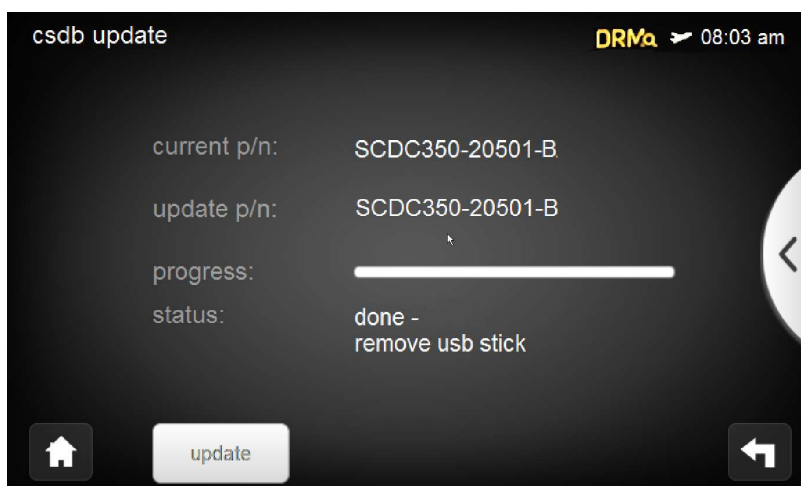

Figure 6: System Software page / CSDB Update Completed
After the copy is completed, the status message “idle” together with the complete progress bar will be shown (Figure 6).
- k) Wait for the status to change to “done – remove usb stick” (Figure 6).